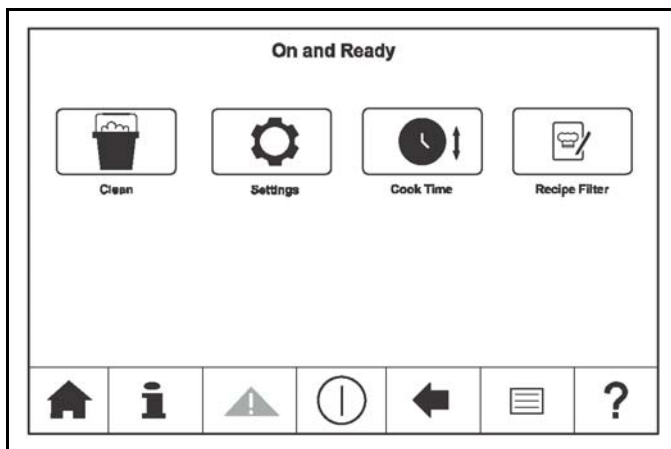

Figure-26
11. Select the Settings key  to enter the Manager's Menu. See Figure-26.